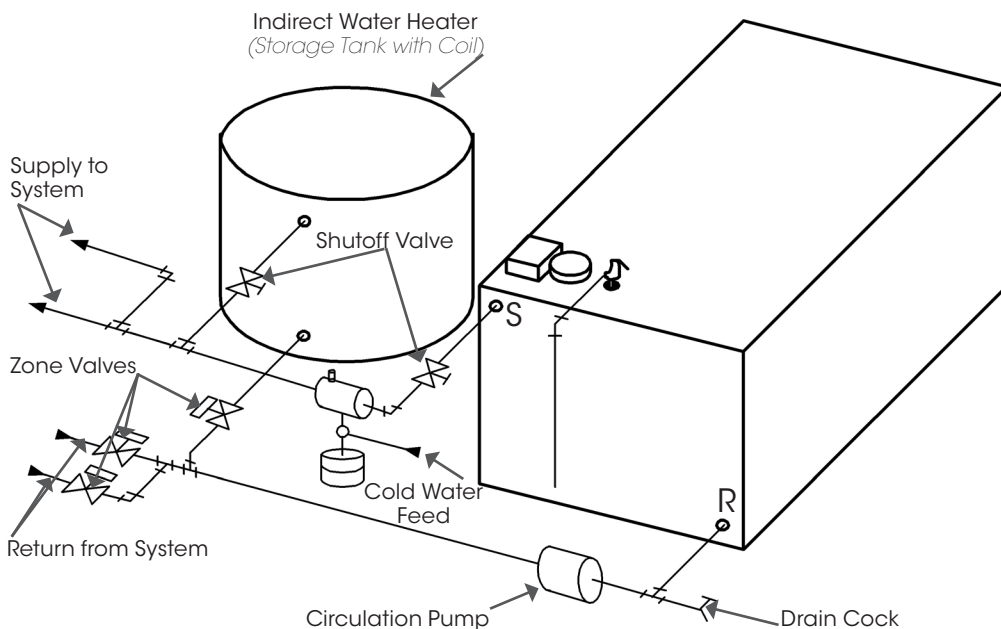
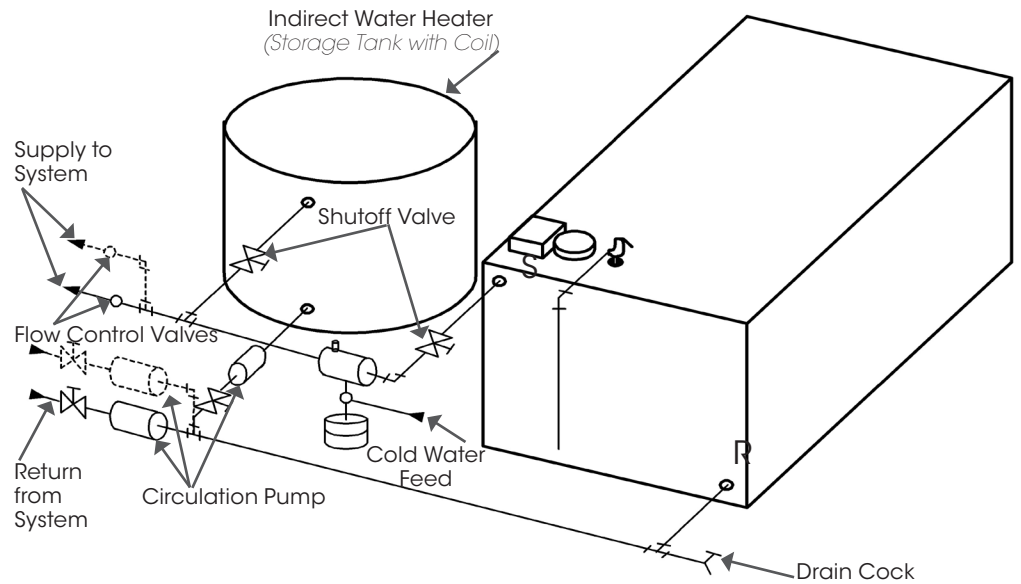
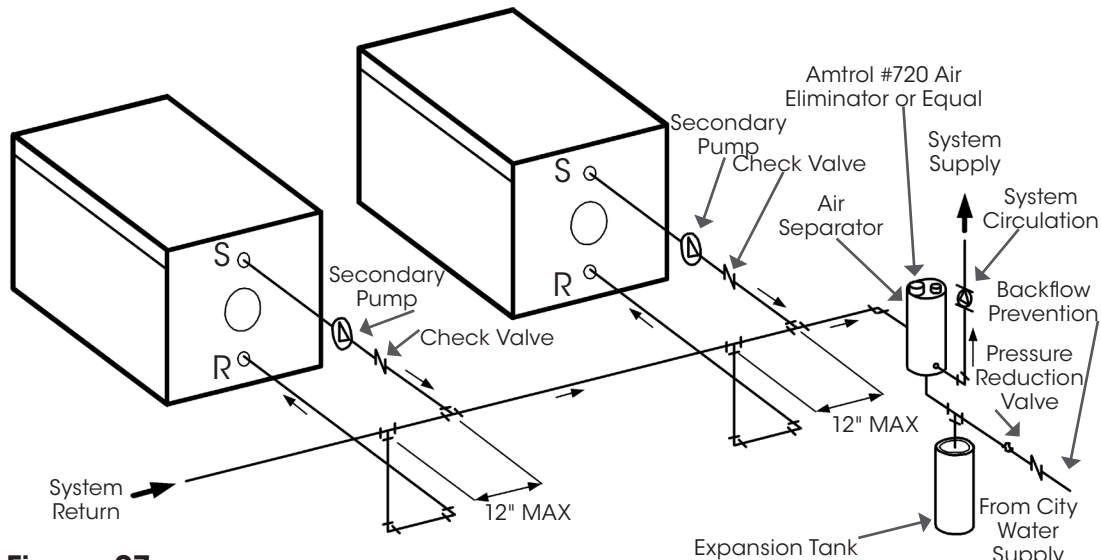

Figure 23
Figure 24
Figure 27
6. Integrated system with multiple heating zones and no priority for domestic hot water using zone valves: Where the boiler output is large relative to the heating capacity of the coil in the indirect water heater priority for domestic hot water is not necessary. Further, with multiple heating zones there is less likelihood that all zones will call for heat at once and require full boiler output for heating. Because the tank is usually close to the boiler, the pressure drop through the coil circuit will generally be less than through a heating zone circuit, which will provide some measure of priority for domestic hot water. This can be enhanced by increasing the pipe size to the coil e.g. if 3/4 inch pipe is used on the heating zones run 1 inch pipe to the coil. (See Figure 23.) Should priority for domestic hot water be mandatory, it can be provided as shown in Wiring Section, Figure 24.
7. Integrated system, single or multiple heating zones, using circulating pumps rather than zone valves: Each pump will require a separate relay (Honeywell R845A or White Rodgers 828A-845, or equivalent). Install a flow control valve in each zone including the indirect water heater to prevent gravity circulation. Install a balancing valve in each zone and adjust so that flow in each zone is about the same. (see Figure 24.) While this basic system does not provide priority for domestic hot water, priority can be provided as shown in Wiring Section, Figure 27.
Size secondary pump GPM at gross boiler output for 20" Drop. When calculating pump head, the maximum boiler resistance for any boiler will not exceed 14 in. W.C. head. See Figure 27.